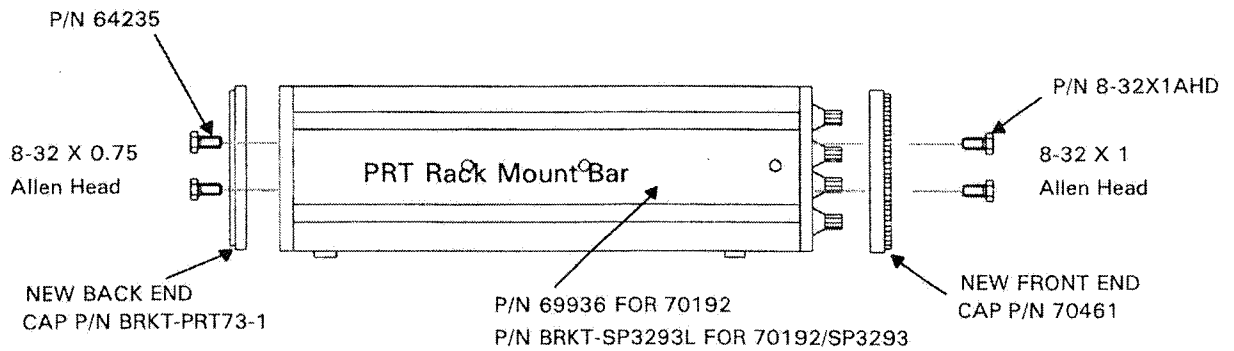

Figure 6-3 Installing PRT Rack Mount Bar
2. Insert the PRT Rack Mount Bar as shown into each side of the Model 73 and secure the new back end cap with two 8-32 X .75 Allen head screws at the rear of the Model 73. Secure the new Front End Caps and the PRT Rack Mount Bar to the Model 73 using two 8-32 X .75 Allen head screws. Refer to Figure 6-3.